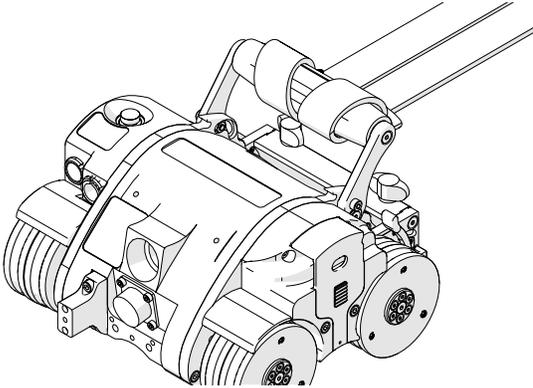
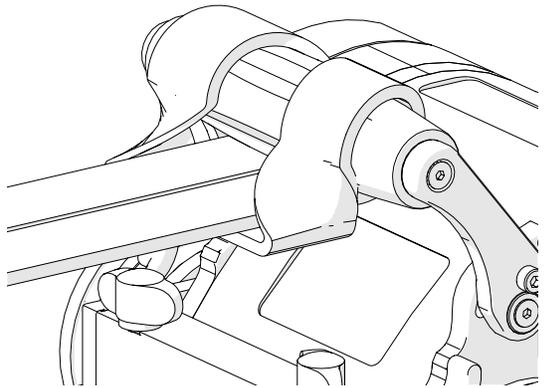

Fig. 77 - Attach the lifting sling with a choker hold
Fig. 78 - Attach the lifting sling with a choker hold
1. Wrap the supplied lifting sling around the handle of the **SKOOT** using a choker hold knot (Fig. 77) and (Fig. 78).